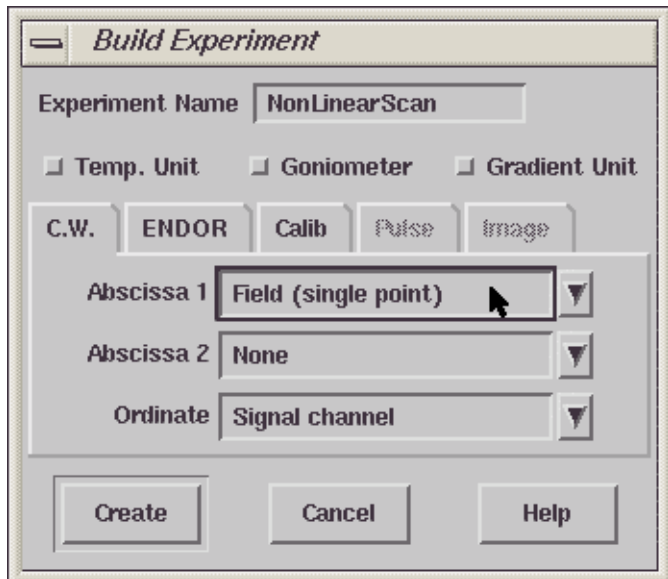

Figure 7-2 Creating a nonlinear field sweep experiment.
1. **Create a nonlinear field sweep experiment.** Click the New Experiment button. In the CW folder, select Field (single point) as Abscissa 1. Click Create to close the dialog box. (See Figure 7-2.)